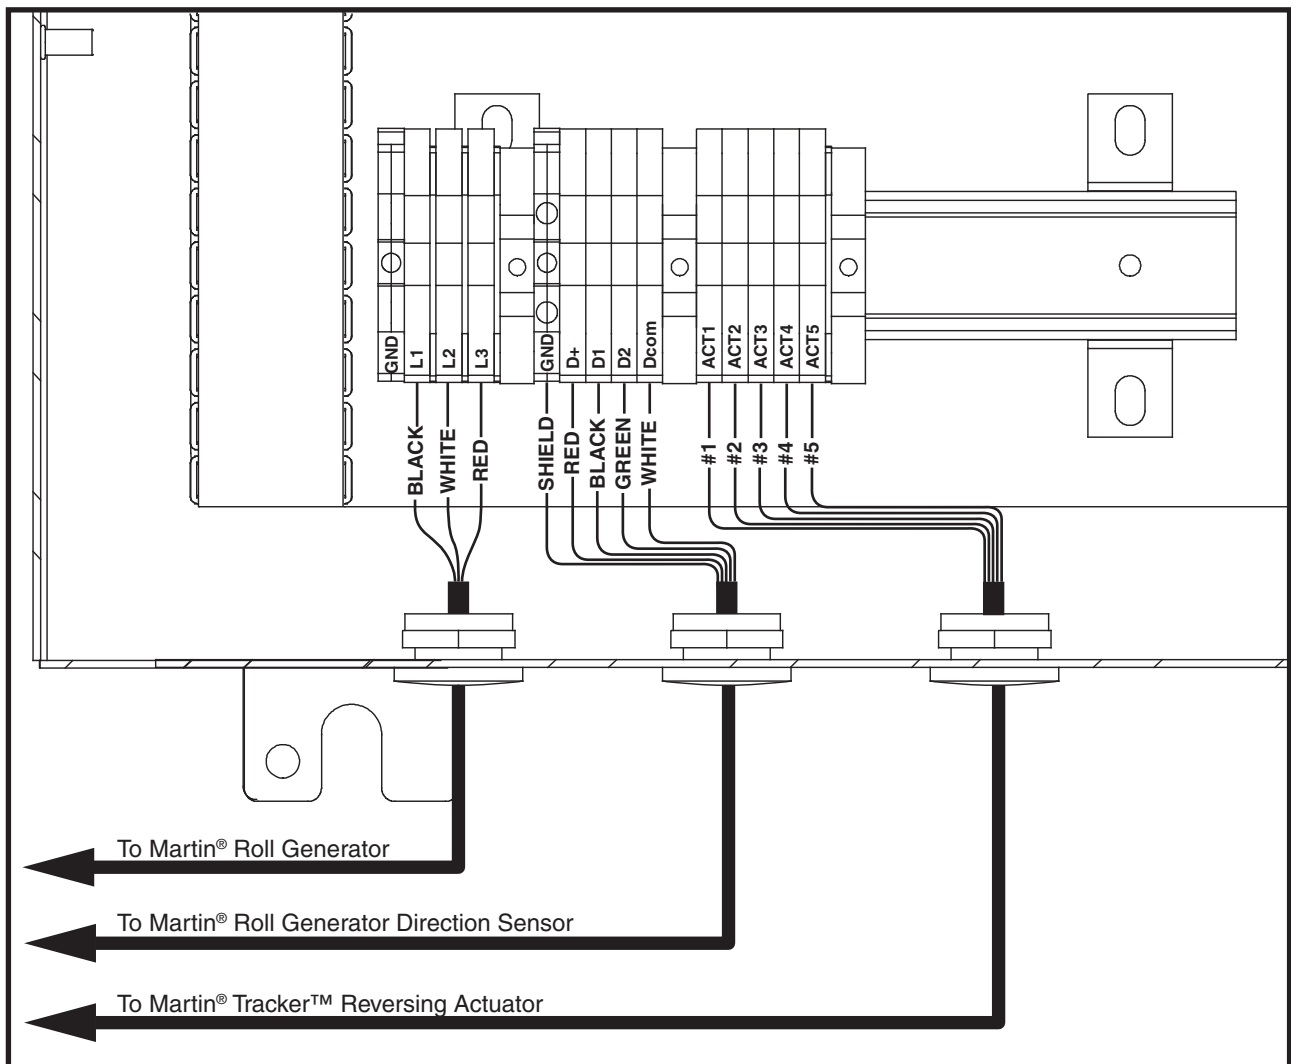

Figure 4. Power Supply Cabinet Layout
- a. For Martin[®] Roll Generator power supply, connect wires from roll generator to terminal block (see Figure 4):
- (1) Black wire to L1 terminal.
- (2) White wire to L2 terminal.
- (3) Red wire to L3 terminal.
- a. Connect wires from sensor to terminal block (see Figure 4):
- (1) The number on each wire corresponds with the terminal it connects to (for example, wire #1 to terminal ACT1).
- a. Connect wires from actuator to terminal block (see Figure 4):
- (1) Shield to Ground terminal.
- (2) Red wire to D+ terminal.
- (3) Black wire to D1 terminal.
- (4) Green wire to D2 terminal.
- (5) White wire to Dcom terminal.